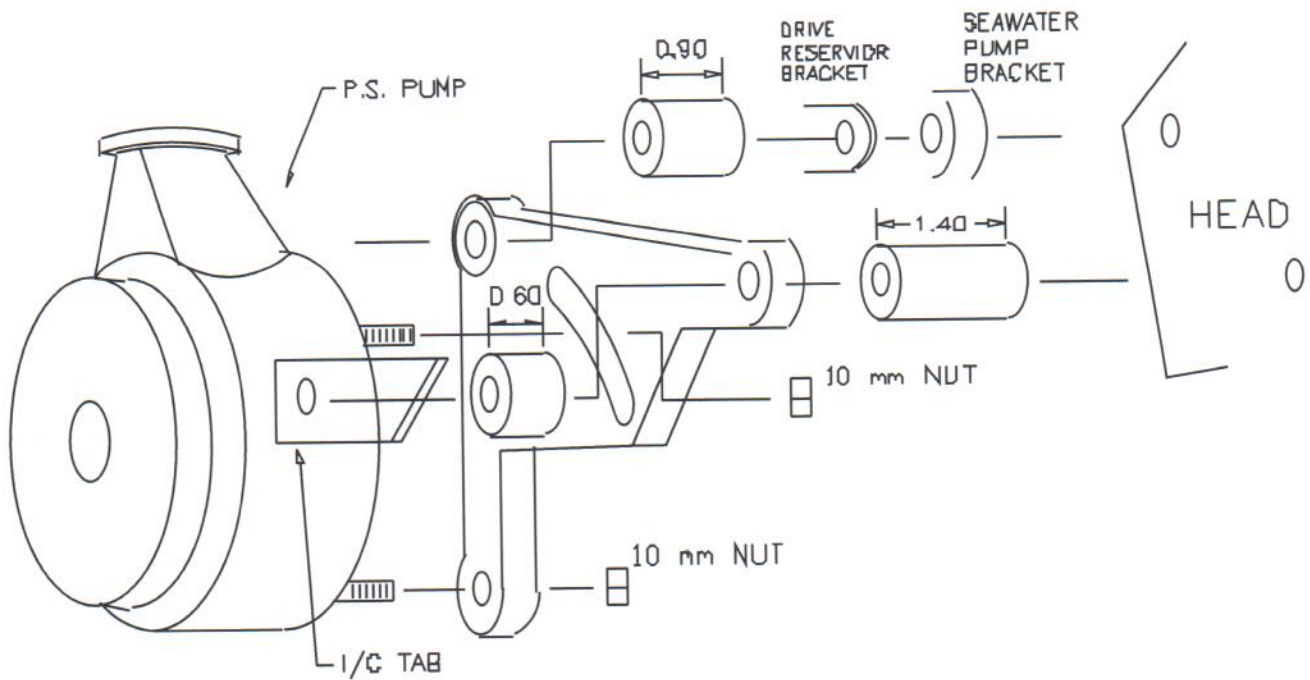

FIGURE D6
7. The port side I/C tabs will mount to the innermost bolt hole on the port side head in the following sequence: front I/C tab in front, then 1.5" (1.8" on SC systems) spacer, main bracket hole A1, then 2" spacer, then rear I/C tab, and finally the other 2" spacer. Run the 7/16" x 7" bolt through, and thread into the head bolt hole. (see figures D6 and D8)